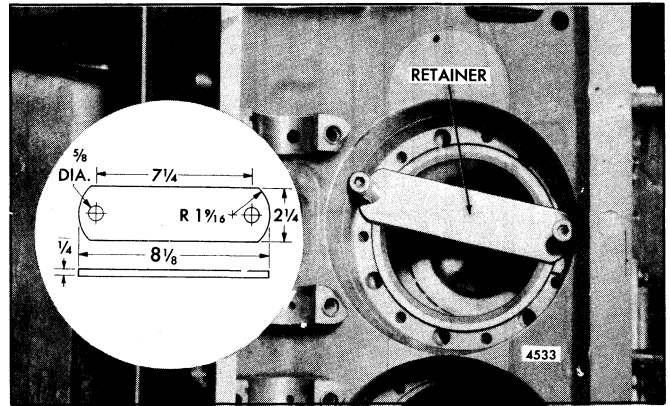

Fig. 2 - Cylinder Liner Retainer and Instructions for Fabrication
6. Install suitable retainers to temporarily hold the pistons and cylinder liners in place. Fig. 2 shows a